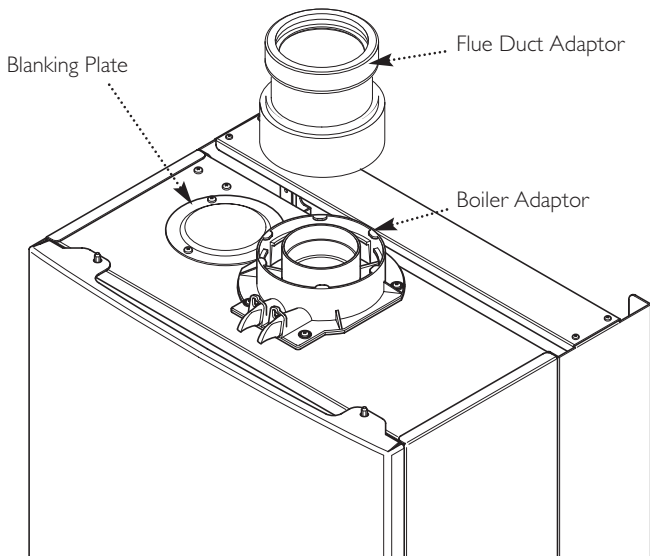

Fig. 11
8.4 Flue Duct Adaptor (Fig. 11)